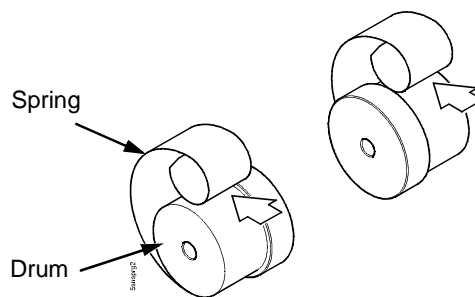

Figure 88. Removing the Constant Force Spring from the Drum
5. Lift the loose end of the constant force spring and let it curl up on the outside of the remaining spring and drum. (Figure 88.)
6. While holding the drum tightly, continue to curl the spring until it is completely unwound from the drum. (Figure 88.)